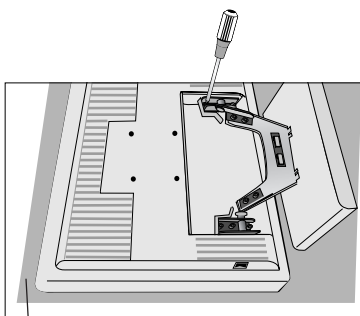

Figure R.2
3. Place monitor face down on a non-abrasive surface (Figure R.2).
4. Remove the 4 screws connecting the monitor to the stand and lift off the stand assembly (Figure R.2).